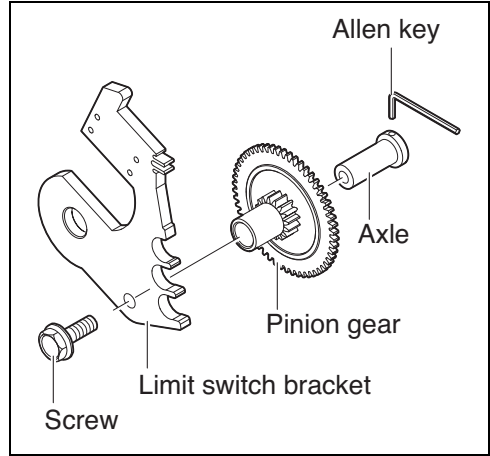

Fig. 15
- ▶ Fit the pinion gear with the axle and the screw in the limit switch bracket; tightening torque 88 lbf-in (10 Nm), see Fig. 15. Use the Allen key from the scope of delivery to retain the axle. The gear must engage in the teething of the small gear in the limit switch.